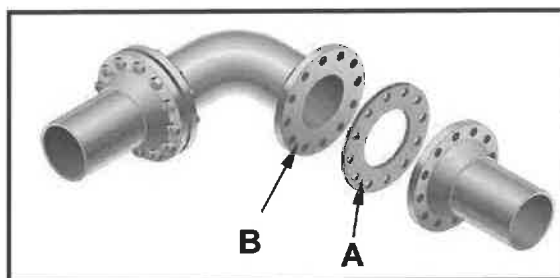

FIGURE 4.2
- 4.2 FIGURE 4.2 below shows galvanised pipes with fittings used in water systems.